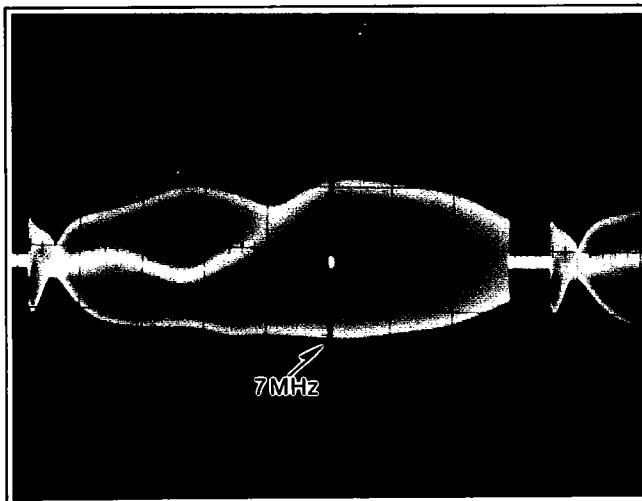

Figure E10
5. Adjust VR3004 until the peak frequency is 7.0 +/- 0.2MHz as shown in Figure E10.